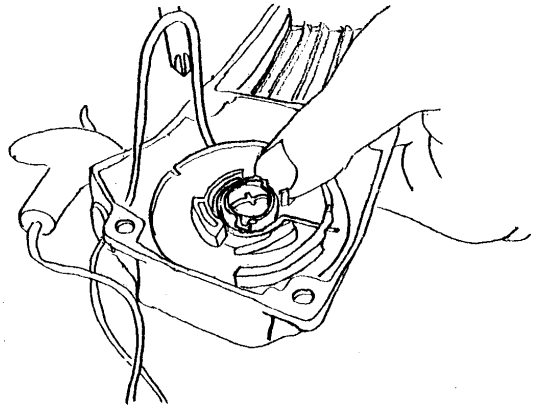

Fig.6-1
- (1) Remove the RECOIL STARTER from the engine.
- (2) Pull out the STARTER KNOB, press the ROTARY REEL with your thumb as shown in Fig.6-1 when the REEL cut-out comes to the STARTER ROPE OUTLET, and pull the STARTER ROPE to the inside of the RECOIL STARTER with a screwdriver. Using the cut-out, rewind the REEL to the direction of the arrow until it stops by controlling the rotation of the REEL with your thumb.
(1) Pull the STARTER KNOB a few times:
- ① If the STARTER KNOB is too heavy to pull, check the associated parts whether they have been reassembled as instructed.
- ② If the RATCHET fails to function, check whether the parts such as the spring have been missing.
(2) Pull the STARTER KNOB to pull out the STARTER ROPE to the end:
- ① Unwind the STARTER ROPE 1 to 2 turns in the way as shown in Fig.6-1, since the SPIRAL SPRING may be over-stressed if the STARTER ROPE still remains in the rope groove.
- ② If the STARTER ROPE is found weak to move back, or the STARTER KNOB droops when you let it go, apply grease over the rotating and friction parts. If it does not recover, pull the STARTER KNOB such that the STARTER ROPE is pulled by 1 to 2 turns. (In this instance, make sure in the way described above that the SPIRAL SPRING is not over-stressed.)
- ③ If the SPIRAL SPRING comes away with a sound and the STARTER ROPE will not be moved back, reassemble the RECOIL STARTER from the beginning.